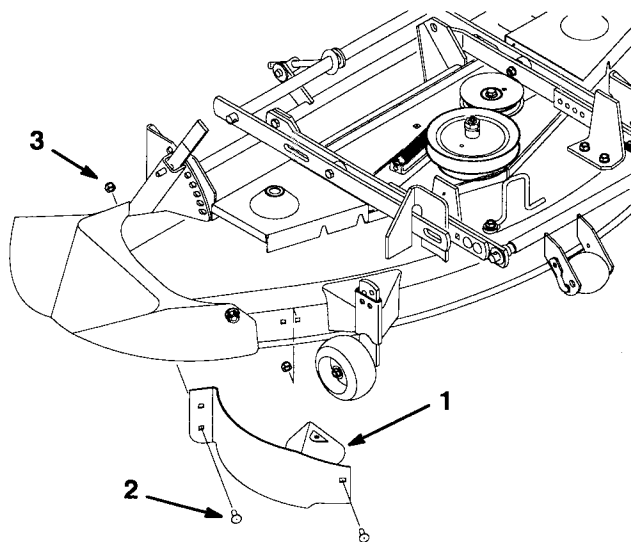

Figure 24
2. Remove the lock nut and bolt from the mower (Fig. 24). Slide the baffle into the discharge opening and into the mower so the pin goes through the baffle.
3. Secure with previously removed 5/16–5/8" (16 mm) bolts and 5/16" lock nuts (Fig. 24).